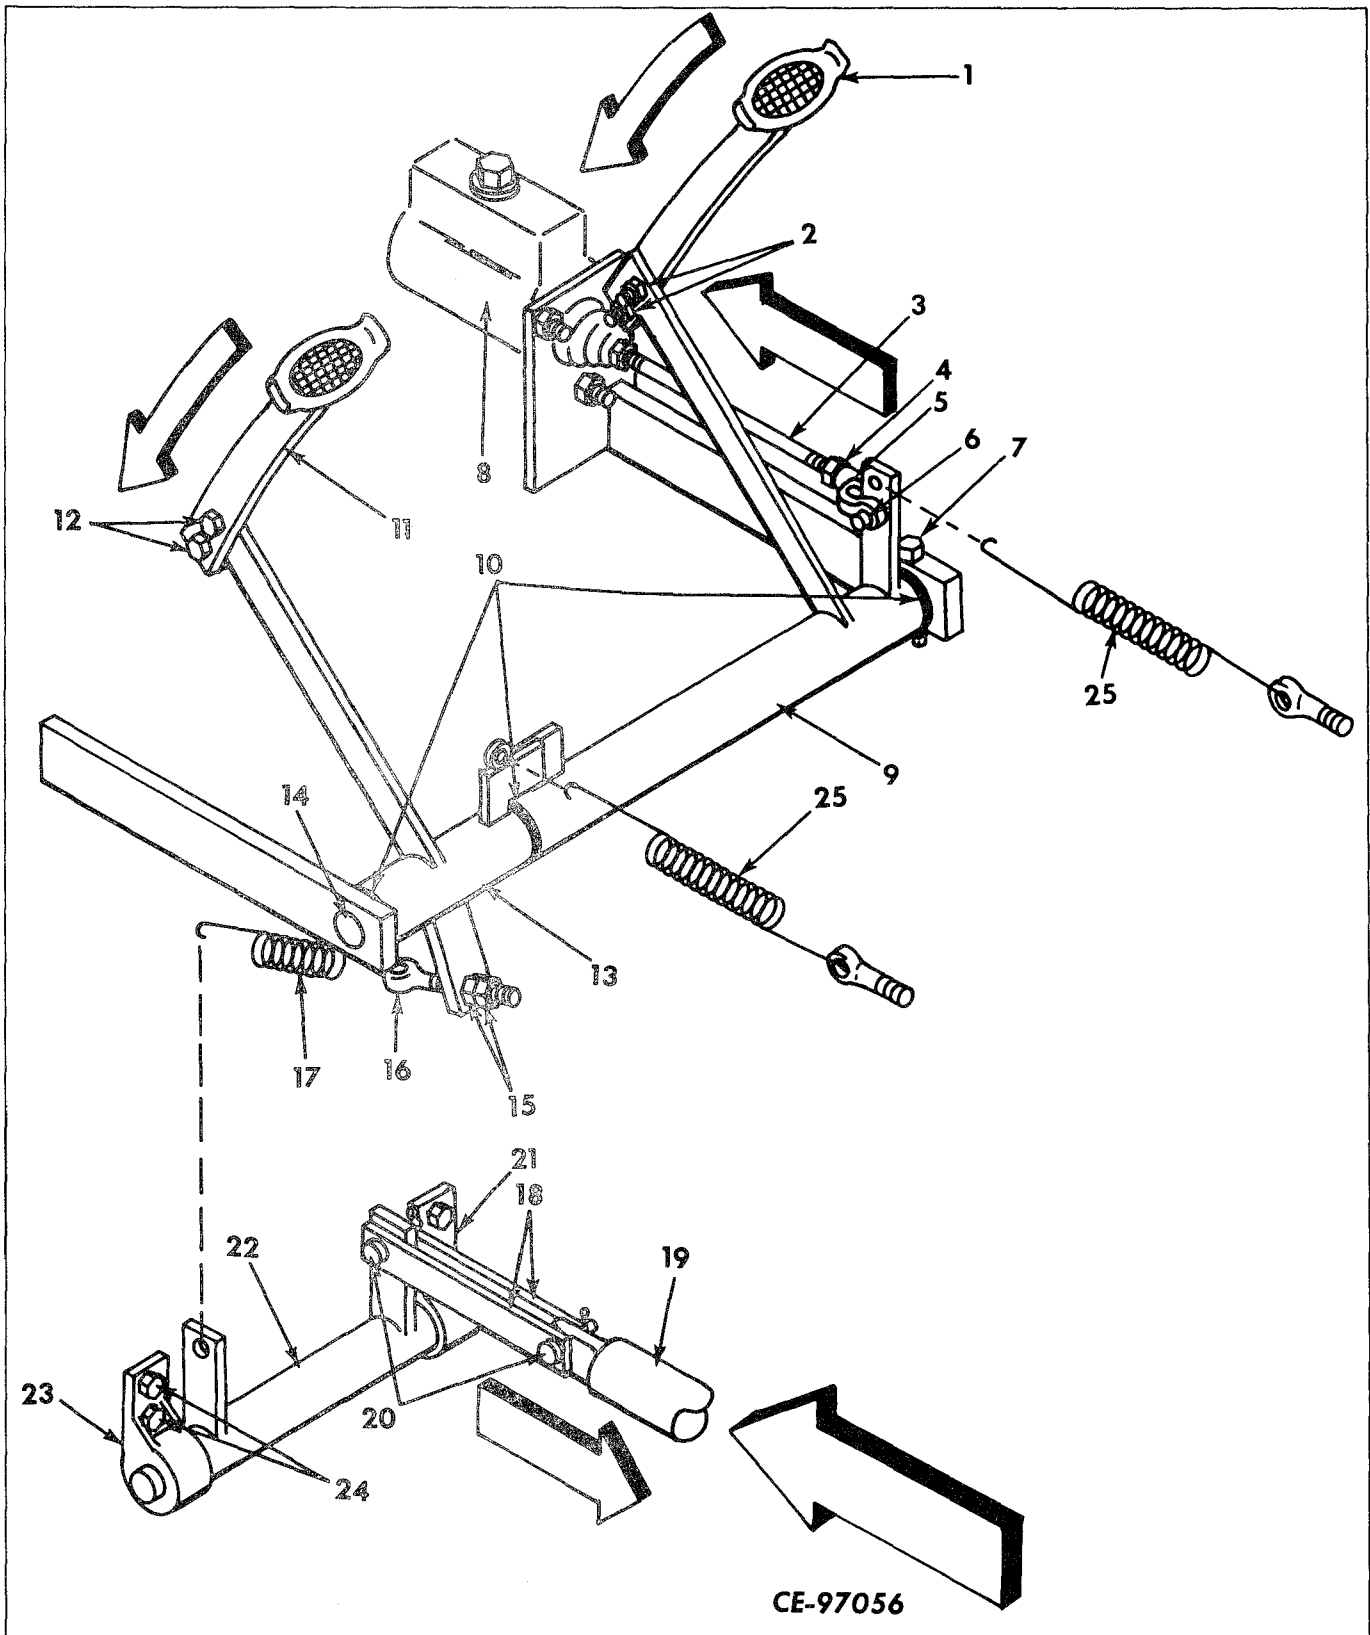

Figure 9-10
Legend for Figure 9-10
Remove the brake pedal return springs (25, Fig. 9-10) and transmission disconnect spring (17). Disconnect rod end (3) from pedal bellcrank arm, (9) by removing cotter pin and clevis pin (6). Remove cap screw, lock washer and nut (7). Using a suitable tool, drive pivot pin (14) out through the mounting brackets. Disconnect pedal bellcranks (9, 13). Discard "O" rings (10). Check bushings in bellcrank hubs for wear or damage. Replace if necessary. Remove cap screws, lock washers and nuts (2, 12) disconnecting brake pedals (1, 11) from bellcranks (9, 13).
Position bellcrank (22, Fig. 9-10) into the mounted support bearing (21) and install support bearing (23). Install and tighten cap screws, lock washers and nuts (24). Position links (18) between bellcrank (22) and transmission disconnect spool (19) and install clevis pins and cotter pins (20).
Check and correct fluid level before final adjustment. Inability to maintain the proper fluid level usually indicates a system leak. Adjustment of the brake pedal travel should be done from beneath the floorboard by shortening or lengthening rod end (3, Fig. 9-10) between master cylinder (8) and brake pedal bellcrank (9).